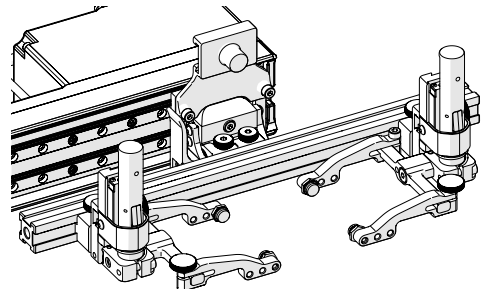

**Fig. 141** - Install (male) pivot nose
3. Mount the (male) pivot nose (sold separately) to the raster arm (Fig. 141).